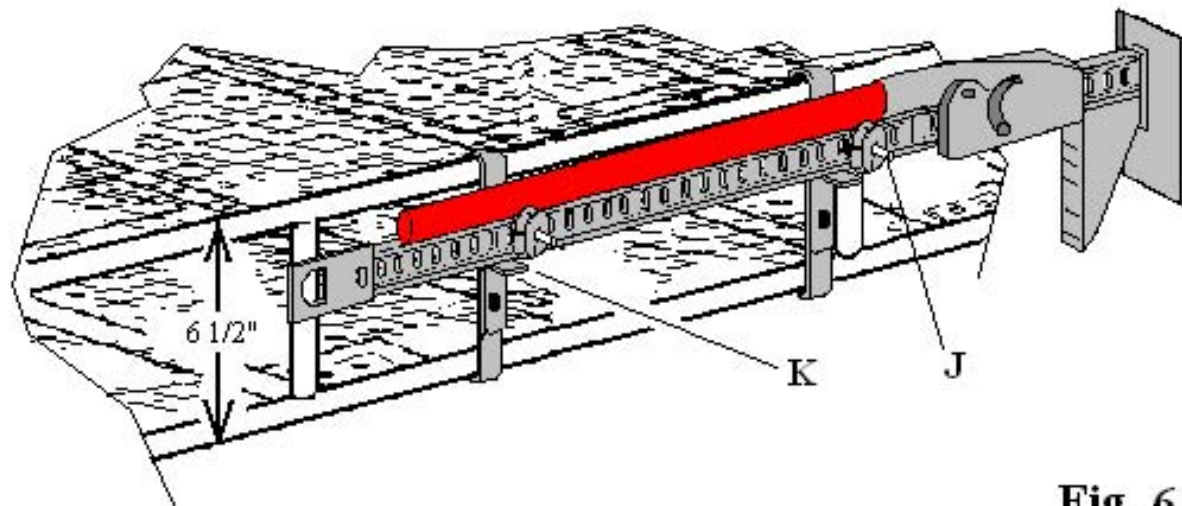
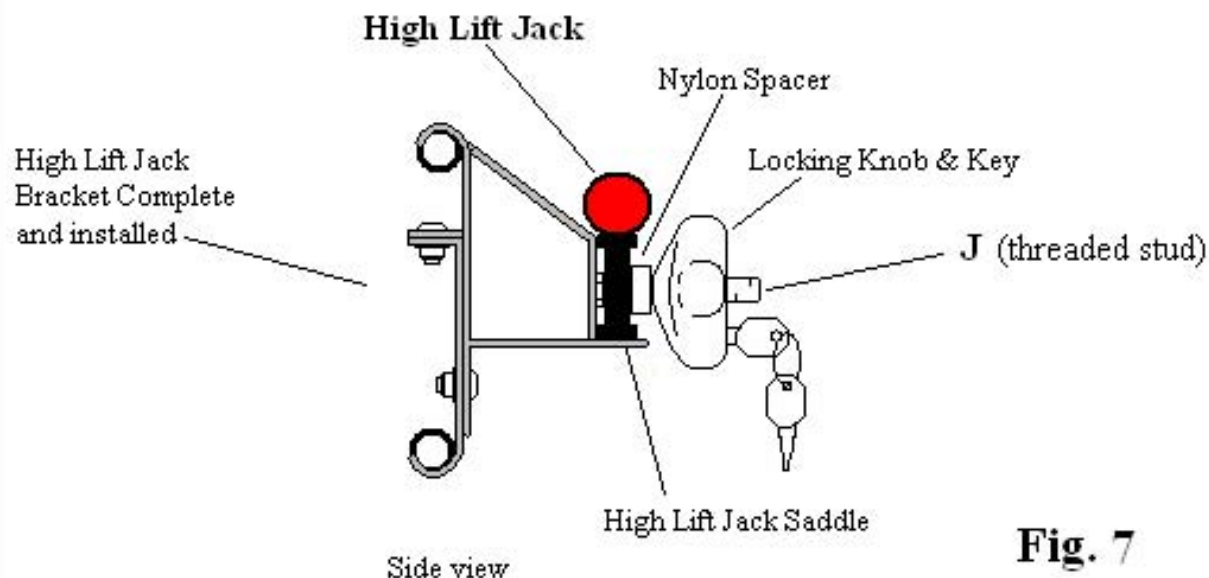

Fig. 6
Fig. 7
- 5 - Remove locking knobs "G" and Nylon spacers "Fa" as shown in Fig 1 page 2. Prior to installing the High Lift Jack onto the GOBI mounting brackets refer to Fig 3 page 3 as to which position you choose and as to which direction the High Lift Jack must be in during installation of the Jack onto the brackets. Place the High Lift Jack in the direction required by your specific mounting location and slide the Jack over the threaded studs "J" of the High Lift Jack mounting brackets and rest the High Lift Jack onto bracket saddles "K" as shown in Fig 6 page 6. If the High Lift Jack ratchet slots do not line up with Bracket studs "J" reposition one of the High Lift Jack brackets until alignment is achieved.
After setting your High Lift Jack over the threaded studs "J" and onto the GOBI High Lift Jack bracket saddles as shown on page 6 Fig. 7 secure the Jack in place by using the nylon spacers and Locking Knobs also shown in Fig. 6 and Fig. 7 on page 6. Tighten locking knobs securely and lock in place using the keys supplied with your kit.